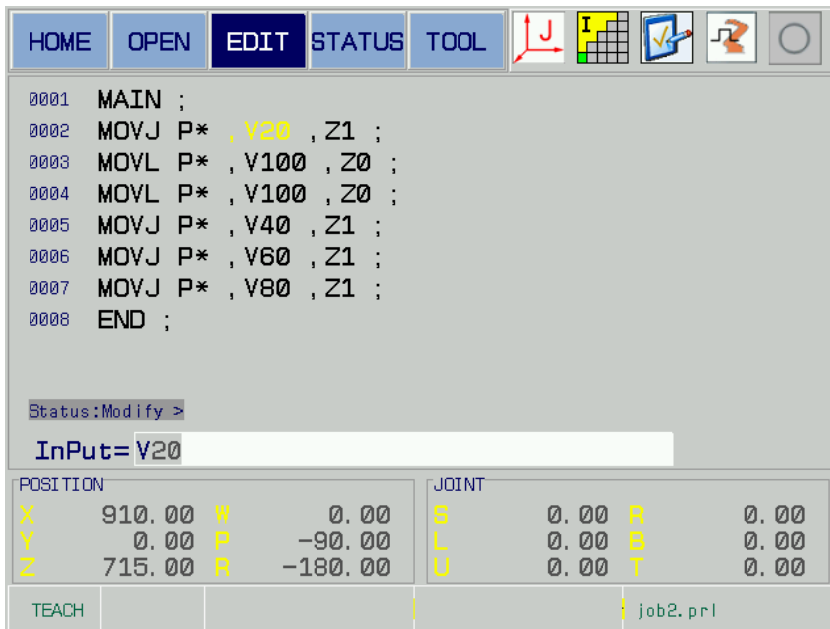

Fig. 5-52
1. Open the program “job2.prl”, then enter the program display page; shift to the edit method by [F3], and then select the speed parameter V20 (the 1st line) of the MOVJ by [ALTER] or up/down direction button; refer to the Fig. 5-52.